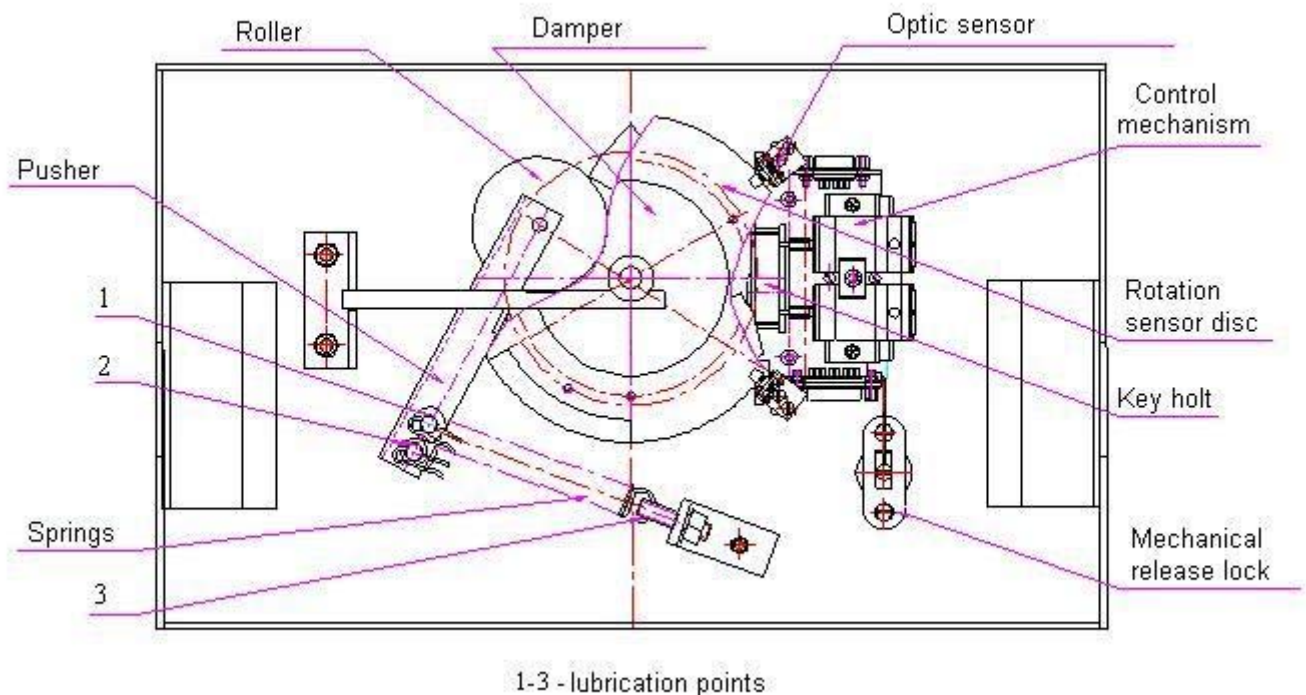

Figure 10 – Interior components of the TBC-01 turnstile mechanism
- Remove the turnstile top cover (3) from the turnstile housing as described in Section 6;
- Inspect the resetting mechanism (a pusher, springs and a roller), optic sensors and a damper (Ref. Fig. 10);
- four bushes of the resetting mechanism (two – on the rotation axis of the pusher, two – on the fastening axis of the springs as well as holes in the fastening parts of the springs); 2-3 drops of oil in each lubrication point (lubrication points are marked in Figure 10). Avoid ingress of lubricant on the rotation sensor disc and the roller surfaces.
- lock cylinders of the mechanical release lock (7) and top cover lock (4) from a side of the keyhole (4);
- Check reliability of the barrier arm (5) fastening, to do so:
- unscrew the cover (6) screw M4x25 with a screw driver and take off the cover (6);